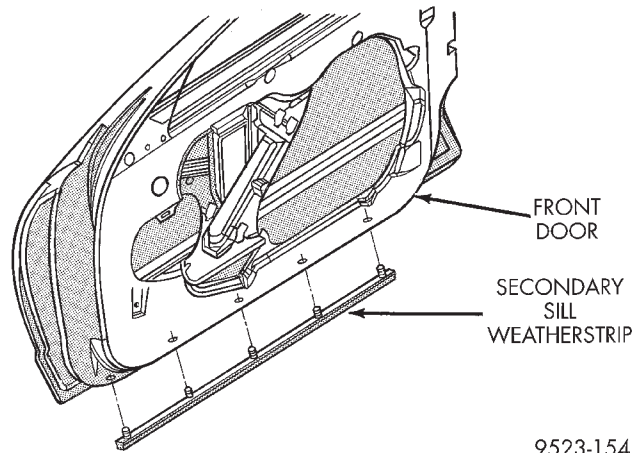

Fig. 71 Secondary Rear Sill Weatherstrip
- (1) Open rear door.
- (2) Using fork tool (C-4828), disengage push in fasteners holding secondary sill weatherstrip to bottom of door.
- (3) Remove secondary rear sill weatherstrip from vehicle (Fig. 71).